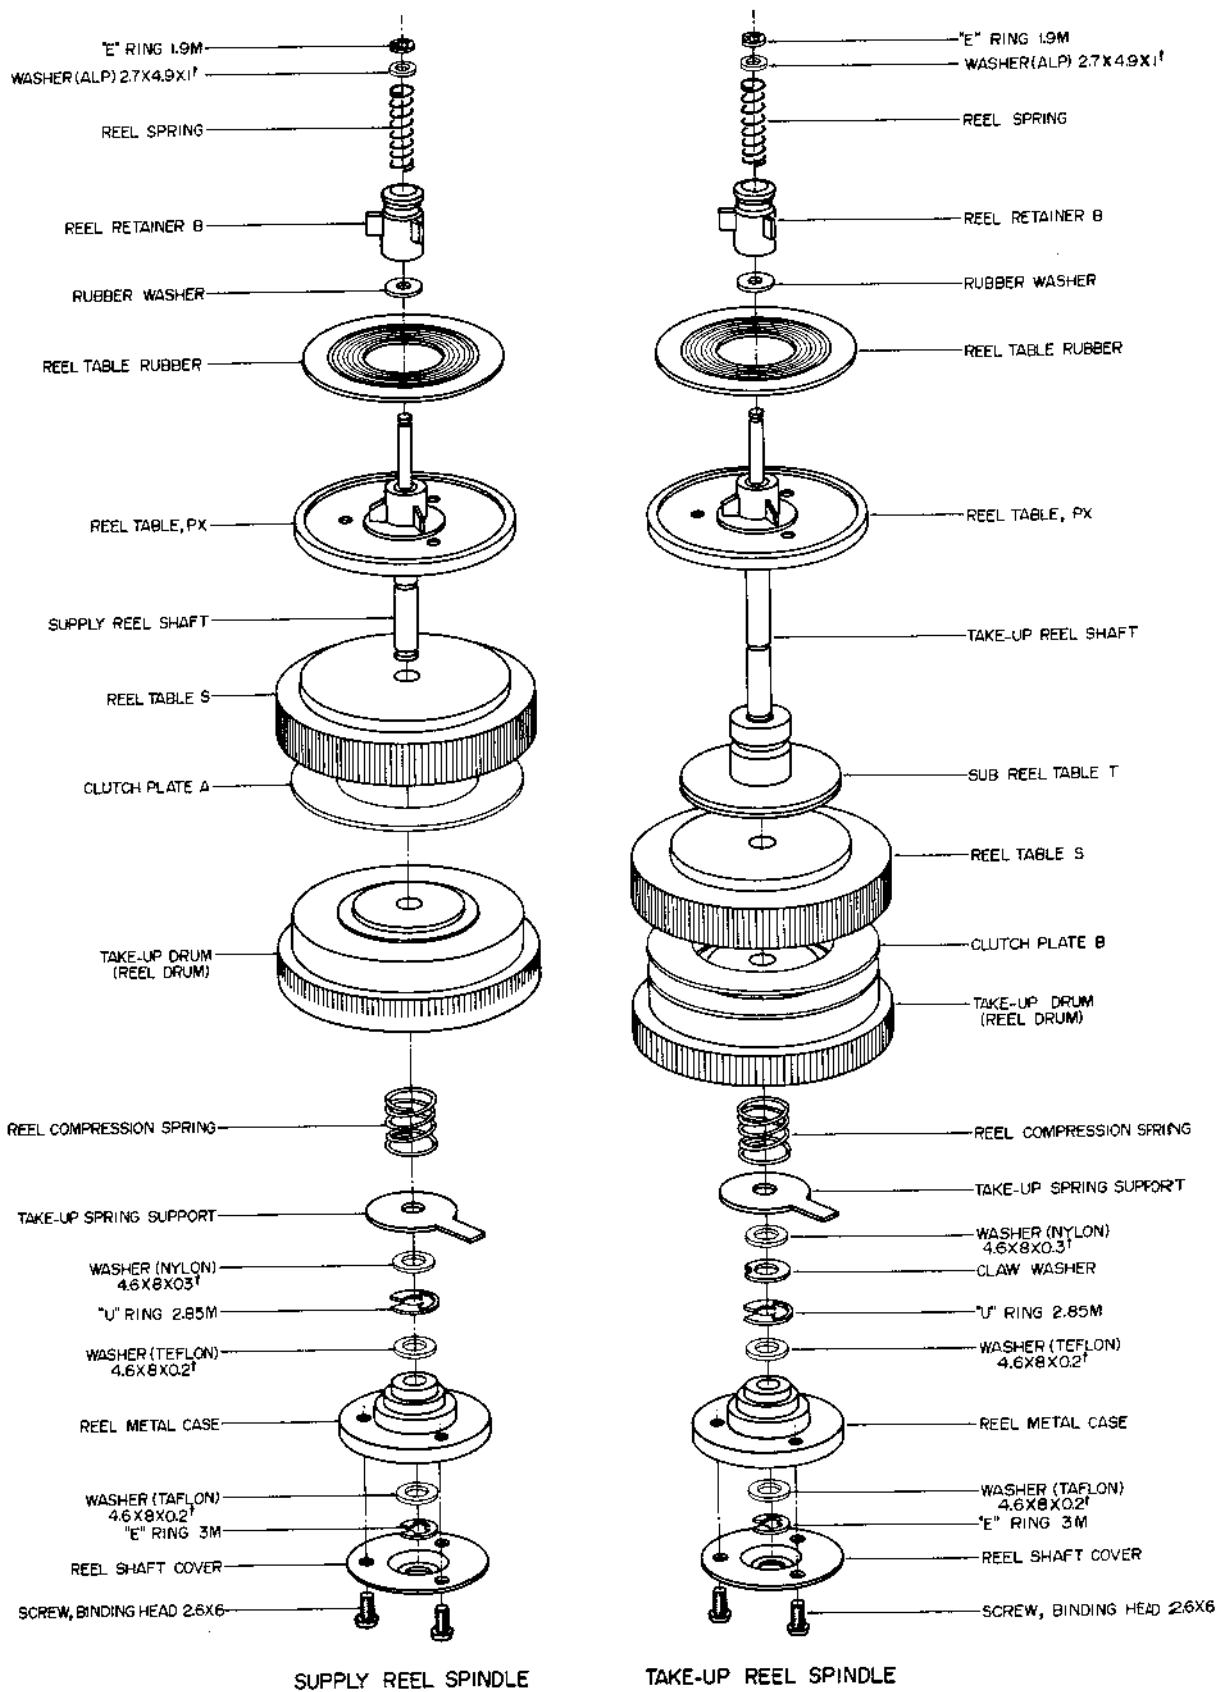

Fig. 1-7
- b) It is satisfactory if the value is 60 to 110g with tape being rolled onto reel and this value plus 10 to 20g when the tape is pulled away from the reel table. Because the take-up torque value is determined by the take-up spring inside the take-up reel table, if the torque is not correct, adjust by regulating the strength of this spring. (Refer to Fig. 1-7)
- a) At stop mode, measure the supply reel and take-up reel brake torque using the same reel as in Part (5), Item (a). The supply reel side should be 80 to 130g and the take-up side 80 to 120g.
- b) As brake torque is determined by the strength of the take-up spring inside the reel assembly, adjust take-up spring according to necessity. (Refer to Fig. 1-7)